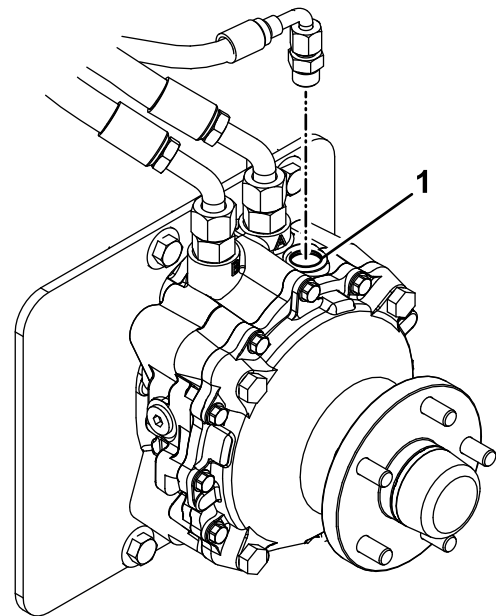

Figure 64
9. Remove the fill-port plug on the top of each wheel motor (Figure 64).